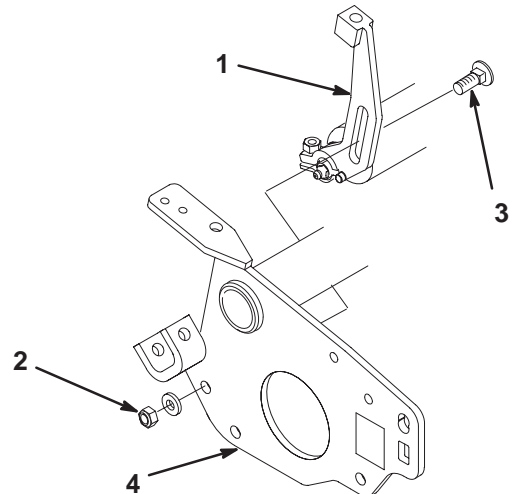

Figure 10
2. On the same end of the cutting unit (drive end), remove the locknut and flat washer from the carriage bolt securing the height-of-cut bracket to the cutting unit side plate (Fig. 10).